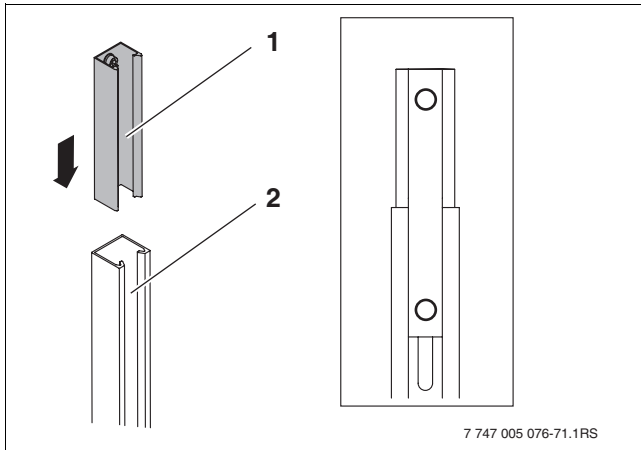

Fig. 28 Inserting TSS joiner into collector profile rail
- Push TSS joiner (Fig. 28, [1]) into the collector profile rail [2] and secure with M8x20 screws and M8 nuts.